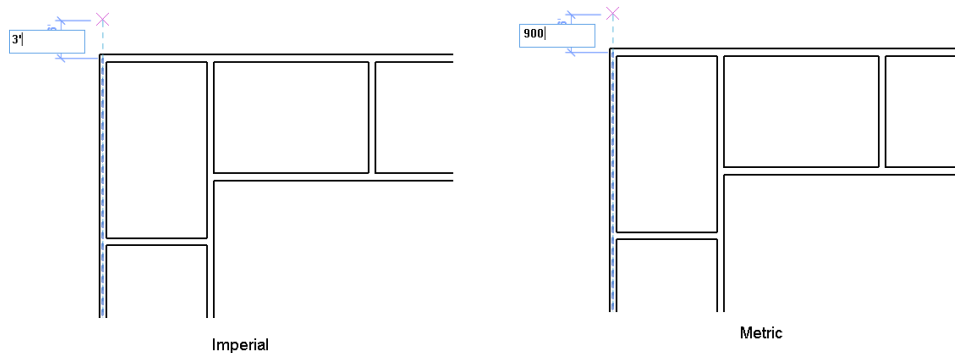

Figure 3-74 Specifying the start point of the grid line
4. Move the cursor near the top left corner of the exterior wall profile and keep it moving till a vertical extension line is displayed. Click to specify the start point of the grid line when the temporary dimension of 3'0" for Imperial or 900 mm for metric is displayed from the centerline of the exterior wall, as shown in Figure 3-74.